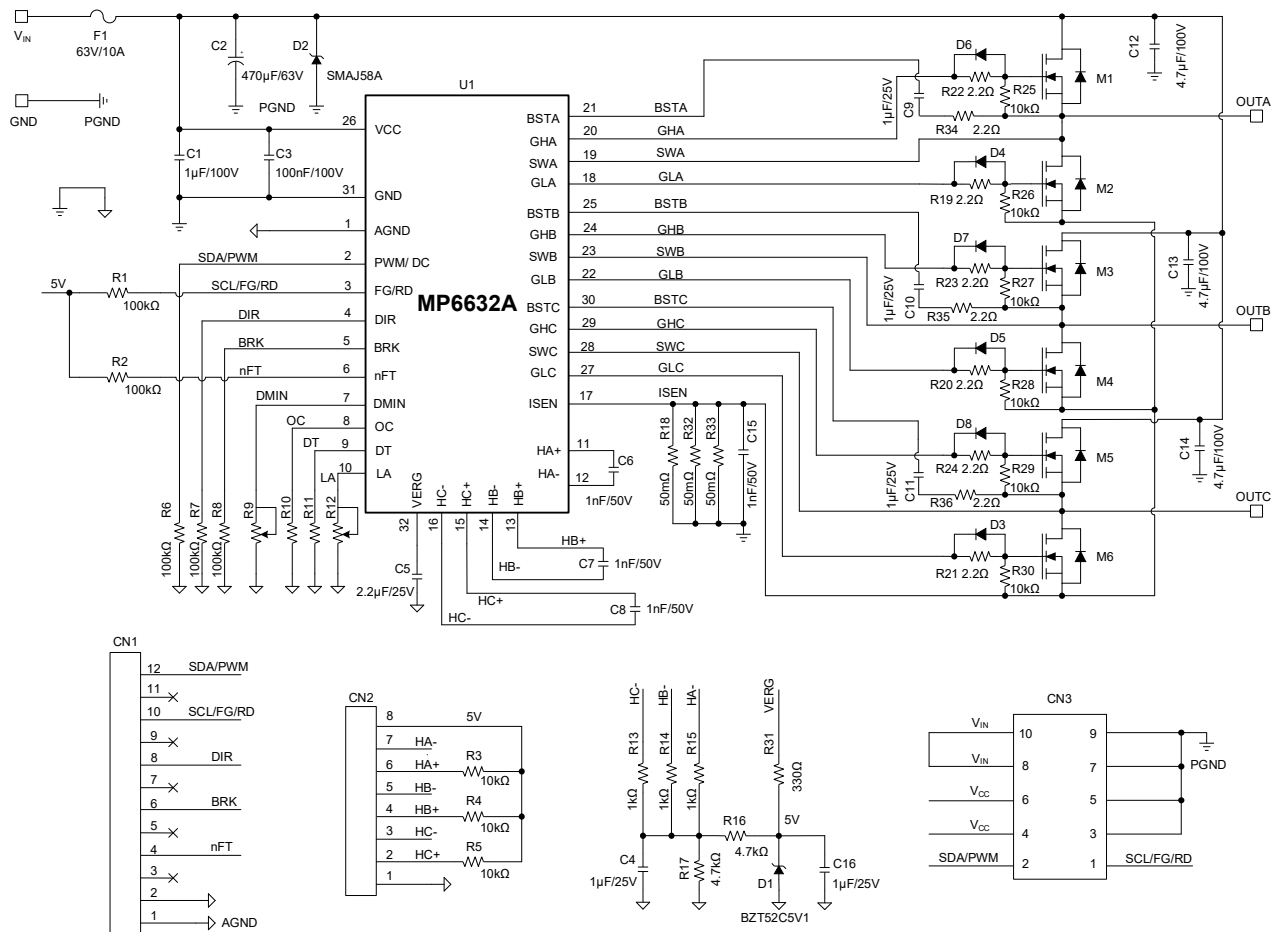

Figure 10: Evaluation Board Schematic
4. Remove the series resistors (R3, R4, R5) between the CN2 PCB's 5V pin and the HA+, HB+, HC+ pins, as well as the resistors (R13, R14, and R15) connected to the CN2 HA-, HB-, and HC- pins (see Figure 10).